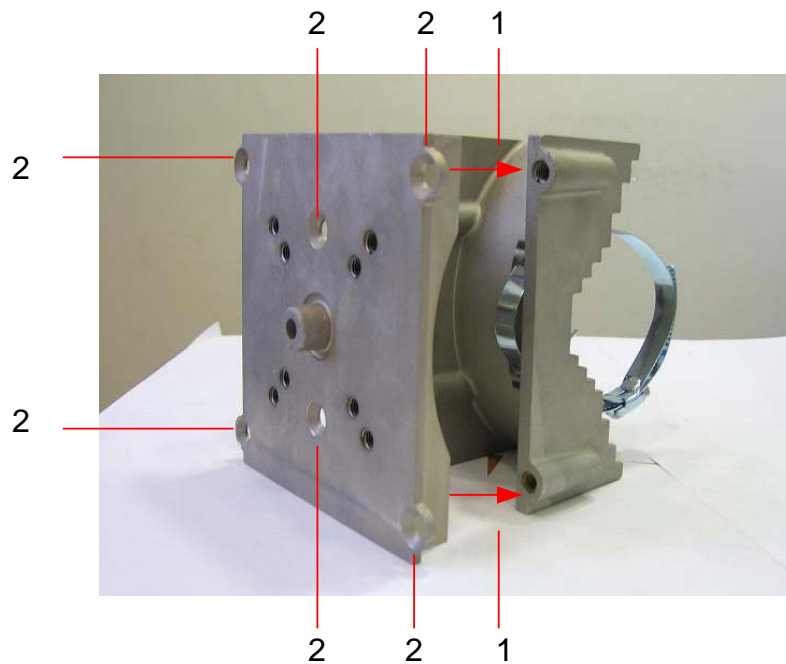

Figure 3.4. **Attaching the Back Plate to the Pole Bracket**
4. Attach the back plate to the hose bracket as labeled #1 in Figure 3.4
5. Insert the six flathead bolts into the holes in the back plate labeled #2 in Figure 3.4 and tighten.